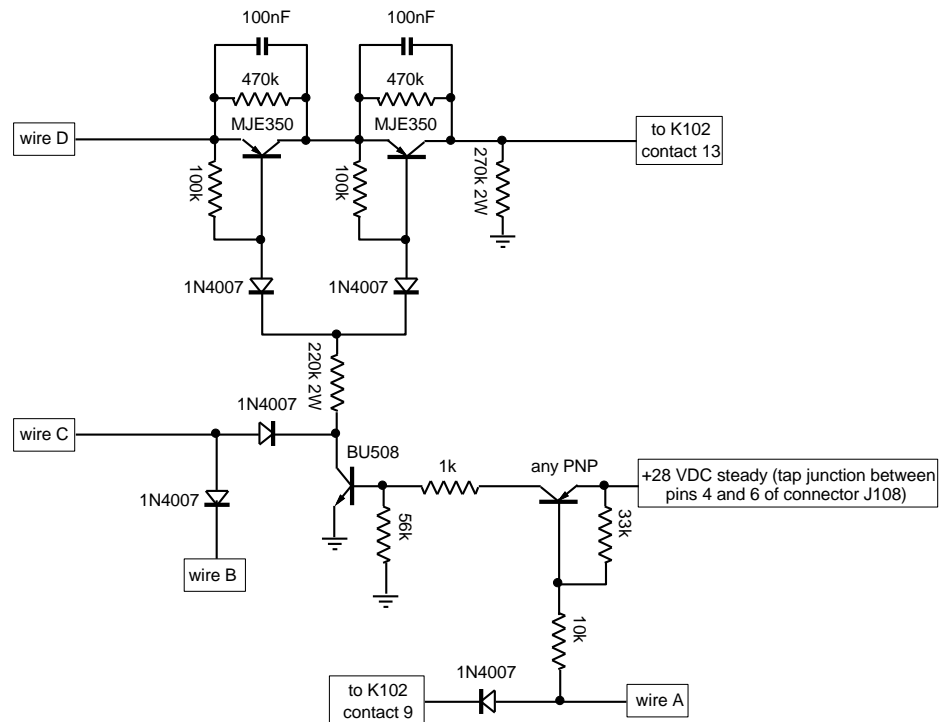
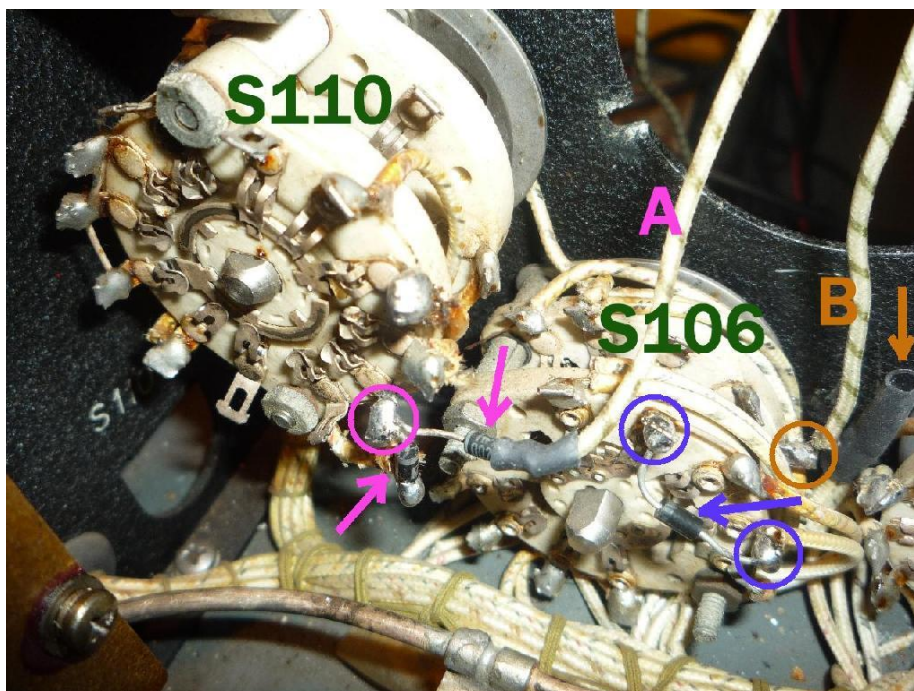
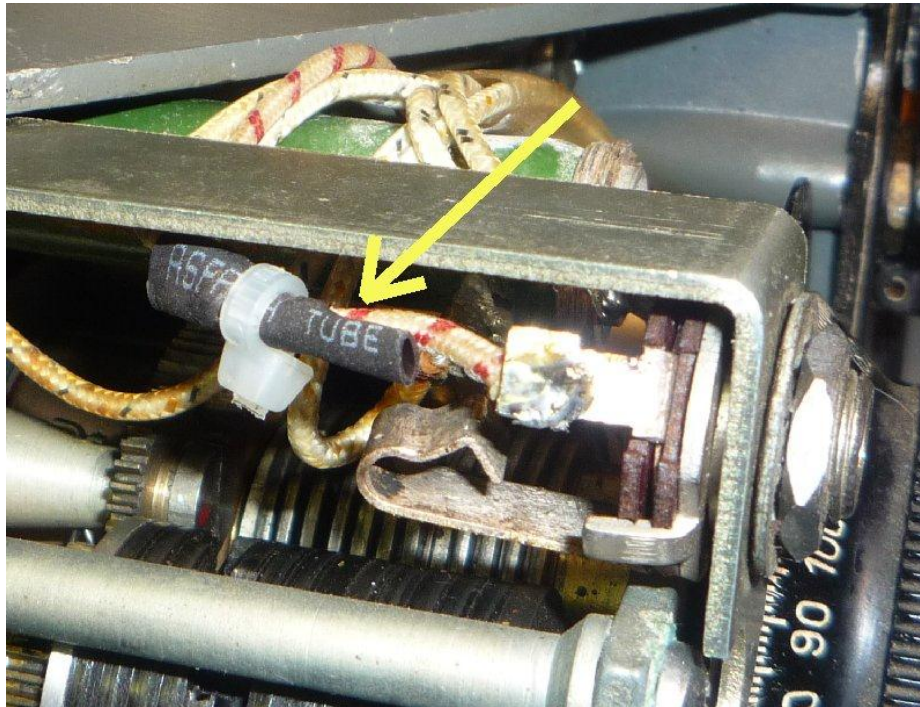

Figure 4.3 – Spot & CW Modifications Circuit – Schematic Diagram
Figure 4.5 – Switch Harness Alterations
Figure 4.7 – Key Jack Alterations
- build the solid-state circuit shown in Figure 4.3. The wires marked as A, B, C and D in the diagram are identified as part of the above step;
The “muscle” of the circuit, shown in the upper part of Figure 4.3, consists of an high-voltage switch that interrupts, when needed, the circuit (contact 13 of transmit relay K102) powering the RF power tube screen grid. It consists of two high-voltage PNP transistors in series, so as to withstand the 400 VDC voltage applied to the screen grid. The “brain” of the circuit, shown in the lower part of Figure 4.3, drives the “muscle” and, beyond that, also serves to ground the cathode resistor R131 of the type-837 HFO oscillator tube (contact 9 of relay K102), so as to activate it when needed.
- 1) Step 1 - K102 transmit relay disabling when in CALIBRATE. Figure 4.5 shows the back of CALIBRATE / TEST / OPERATE switch (S106) after the multi-function meter has been temporarily removed for easier access to the switch.
Before putting the multi-function meter back in place, solder a new wire (identified as “B” in Figure 4.5) on the now free FA-1 contact. Wire “B”, which is grounded by S106 when on CALIBRATE, will eventually be connected to the solid-state circuit shown in Figure 4.3. For the moment, please disregard all the blue and purple markings shown in Figure 4.5.
- *according to the proposed modification*, shorting the cathode resistor R131 to ground in CALIBRATE is now no longer done by K102, but by wire "B" (see Step 1) which, as said earlier, goes to ground when the S106 switch is on CALIBRATE. This is evident from the circuit shown in Fig. 4.1 in which wire "B" results to be connected, through a diode, to wire "C", which is the wire directly going to the HFO tube cathode resistor (R131). Wire "C", is presently attached to K102 contact 9 and must then be unsoldered by that contact so as to permit eventually connecting it to the solid-state circuit shown in Figure 4.3. On this occasion please also unsolder the three ground wires attached to K102 contact 3. Keep the three wires soldered to each other and insulate their junction with a small piece of heat-shrink tubing. The K102 contacts 3 and 9 are now both free and available for another usage.
- 3) Step 3 - Powering the frequency multiplier stages when in CALIBRATE. Going back to Figure 4.5, this can be easily achieved by connecting a 1N4007 diode (blue arrow) between contacts RA-1 and RA-3 of S106, which are identified by a blue circle. The diode cathode (white stripe) is on the RA-3 side. With said diode installed, not only the CFI circuit but also the frequency multipliers get powered when in CALIBRATE. If you find the zero-beat signal to now be too strong, then try without the diode. The zero-beat signal level may be adjusted putting a suitable resistor in series with the diode, so as to vary the multipliers voltage (not tested);
- *according to the proposed modification*, the R131 cathode (corresponding to wire "C" which was unsoldered from K102 contact 9, see Step 2) is instead grounded, through a diode, by a BU508 transistor that gets saturated when the key is pressed (see the solid-state circuit diagram in Figure 4.3). At this point, the things that remain to be done are:
- to gain access to the KEY jack contact: the two wires attached to the jack contact must be unsoldered, as shown in Figure 4.7. The two wires, kept soldered to each other, must be insulated with a small piece of heat-shrink tubing (see yellow arrow). Now solder a new wire on the KEY jack contact and connect its other end to K102 contact 3. In this way, when K102 is energized (thus shorting contact 3 to contact 9), the KEY jack contact appears on K102 contact 9, so controlling (see Figure 4.3) the BU508 transistor (via a diode and a generic PNP transistor) that grounds R131, i.e. the cathode resistor of the HFO oscillator;
- to have the HFO oscillator steadily running when in VOICE, independently of the key status: to achieve this purpose, an alteration is to be made on contact RA-2 of switch S110 (identified by a purple circle in Figure 4.5) which goes to ground when the EMISSION switch is on VOICE. Firstly unsolder the wire attached to said contact RA-2 and then put a 1N4007 diode (marked by the bottom purple arrow of Figure 4.5) in between the now free RA-2 contact and the end of the wire that has just been disconnected. The diode cathode (white stripe) is to be put on the switch contact end. Then solder a second 1N4007 diode (marked by the upper purple arrow of Figure 4.5) on contact RA-2 of switch S110, again with the cathode on the switch contact end. At the other end of the diode solder a new wire and identify it as wire “A” (see again Figure 4.5) which will eventually be connected to the solid-state circuit shown in Figure 4.3. As evident from that last Figure, wire “A” controls, via the PNP transistor, the BU508 transistor grounding the cathode resistor of the HFO oscillator.
- *according to the proposed modification*, the screen grid is only powered when the key is pressed. The modification consists in inserting, in the screen grid path, a solid-state switch (two MJE350 transistors, see Figure 4.3) that is controlled by the key via the BU508 and the PNP transistors. For this purpose you shall unsolder the wire attached to K102 contact 13, identify it as wire “D”, and eventually connect it to the solid-state circuit shown in Figure 4.3, where its connection to K102 contact 13 will be restored when appropriate.
At this point all the needed circuits alterations have been completed and you can then build and eventually integrate, in your ART-13, the circuit shown in Figure 4.3. Double check everything and it will certainly work!